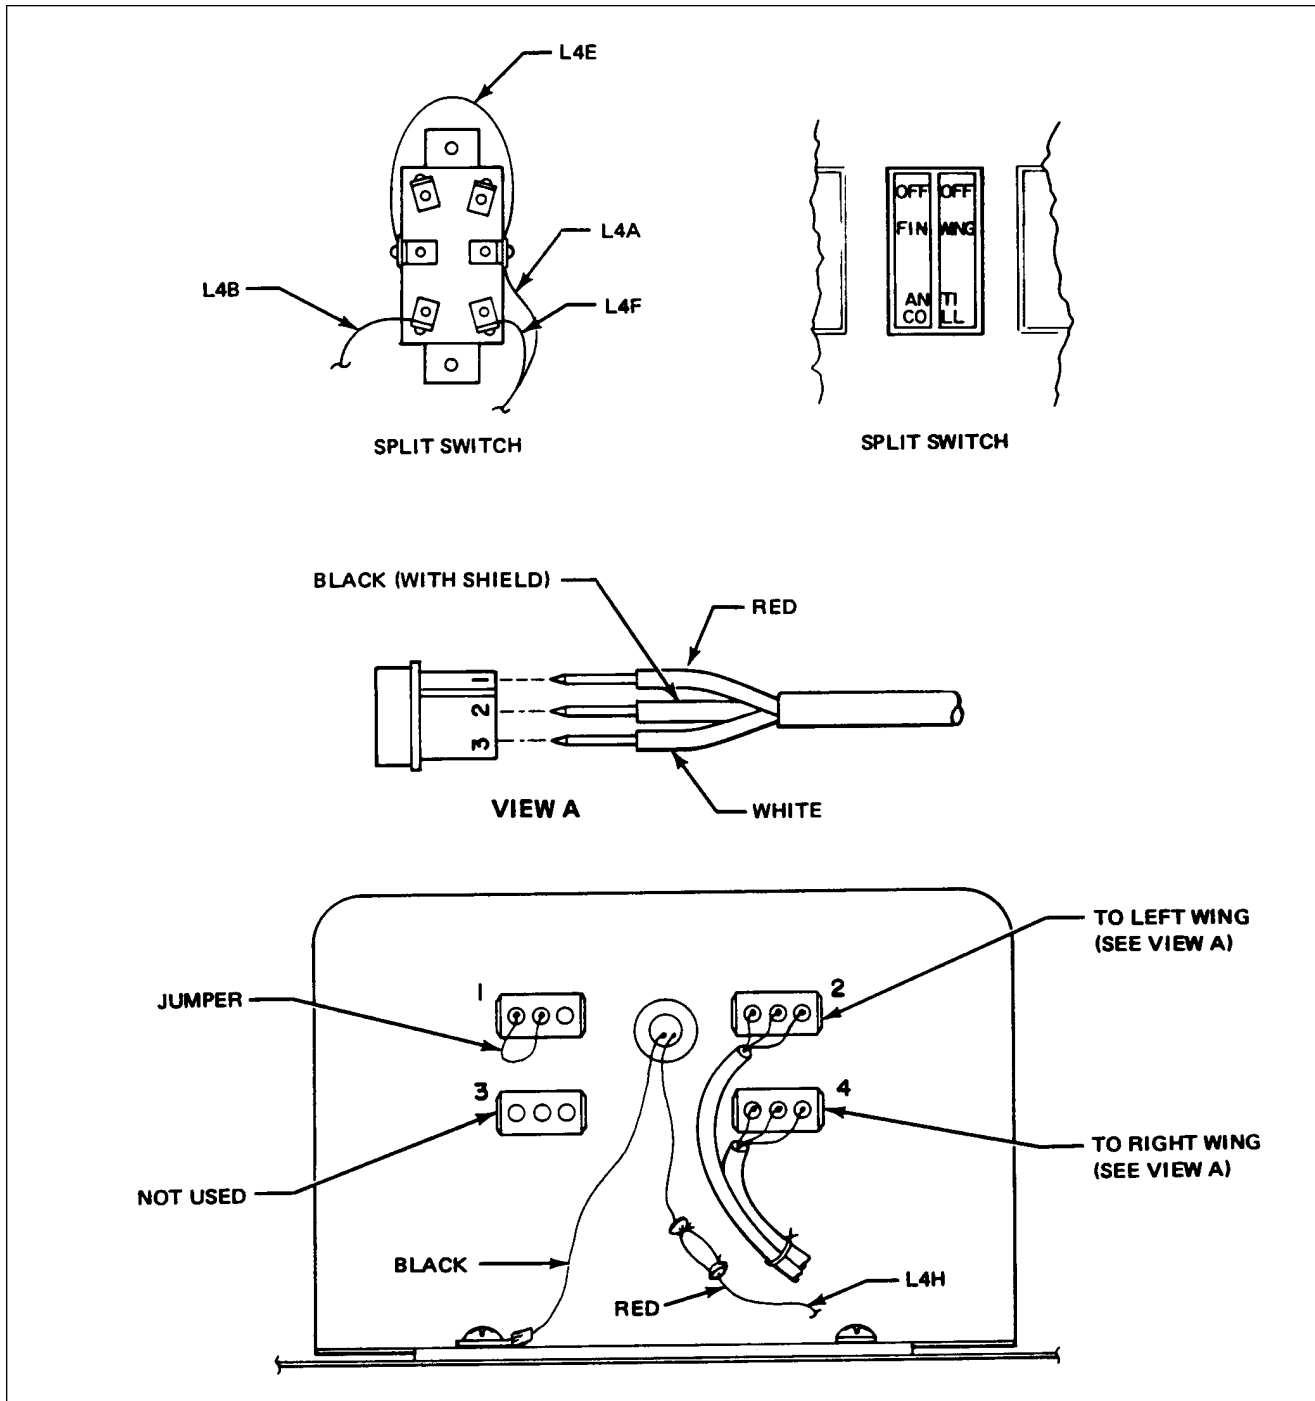

Figure 33-3. Archer II Strobe Light Connections
b. Installation Of Strobe Power Supply (Refer to Figure 33-3)
- (1) Position power supply in place and secure with the four previously removed screws.
- (2) Connect electrical leads in proper place.
- (3) Connect electrical plugs in proper place.
- (4) Replace access panel in rear baggage compartment.